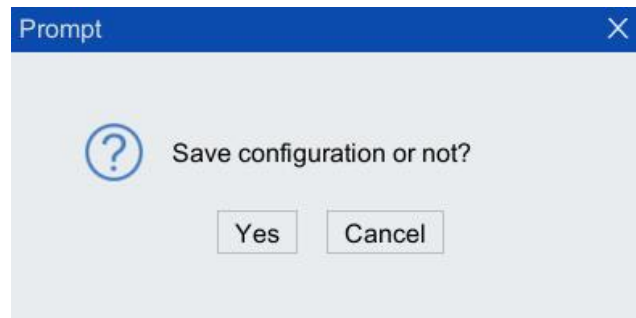

Figure 8-55 "Save Configuration" dialog box
- Step2. Select "D_DCB" or "EtherCAT Slave CCB" as slave, click "Browse" button, select the save path, then click <OK> button to pop up "Save configuration or not?" dialog box in Figure 8-55 and click <Yes> button.